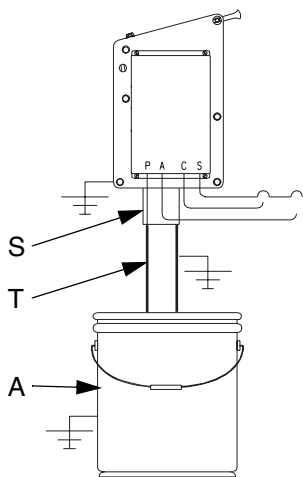

FIG. 2
To avoid splashing, connect a minimum of 2 ft. (0.6 m) of straight plastic or grounded metal pipe or tubing (T) between the gun flush box fluid outlet (S) and an enclosed solvent waste container (A). FIG. 2.
**Waste Container:** Connect a ground wire and clamp between the waste container and a true earth ground. See FIG. 2.